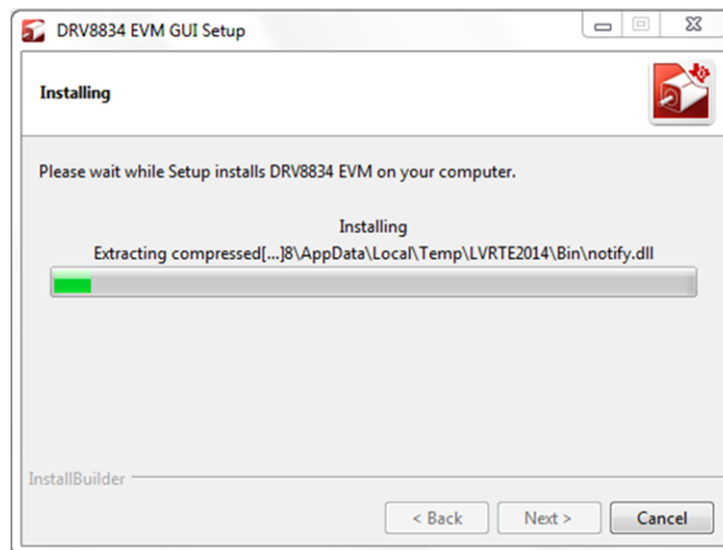

Figure 11. LabVIEW RTE Self Extraction
10. Once the download completes, LabVIEW begins with the self-extraction as shown in Figure 11.